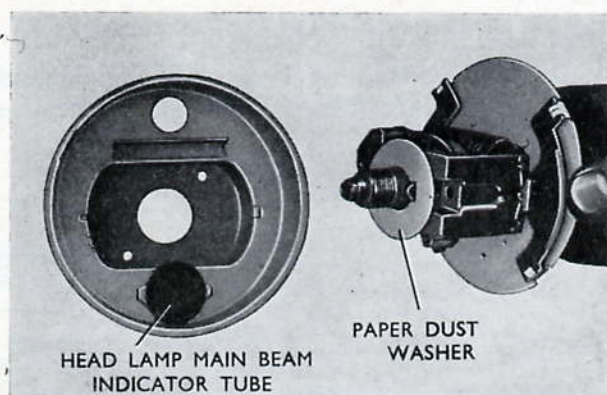

Fig. T.6. Speedometer unit, with paper dust washer located at the back of the frame, ready for installation in the case
4. When assembling the unit ensure that the head lamp beam tube is correctly located and the paper dust washer is installed (Fig. T.6). Also ensure that the sealing ring is assembled to the retainer before installing the glass and bezel.